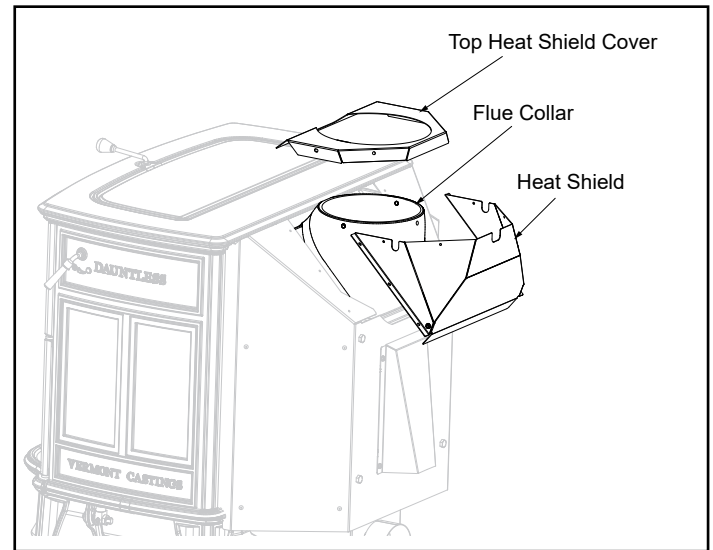

Figure 5.10
1. Remove (10) #8 Tek screws from the heat shield cover and heat shield. Remove heat shield and cover, Figure 5.10.
2. Remove (2) 1/4-20 pan head screws from the flue collar. Remove flue collar, Figure 5.10.